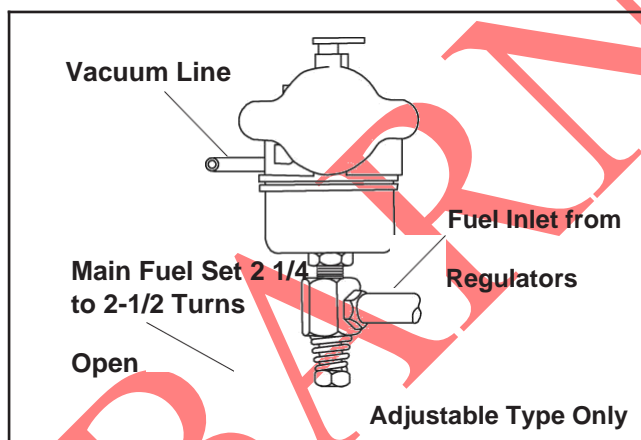

Figure 5-16. LPG Main Fuel Setting.*
1. With the engine stopped, reset the main fuel setting by closing the adjusting screw until it bottoms then turn it $2 \frac{1}{4}$ to $2 \frac{1}{2}$ turns open (see Figure 5-16).*